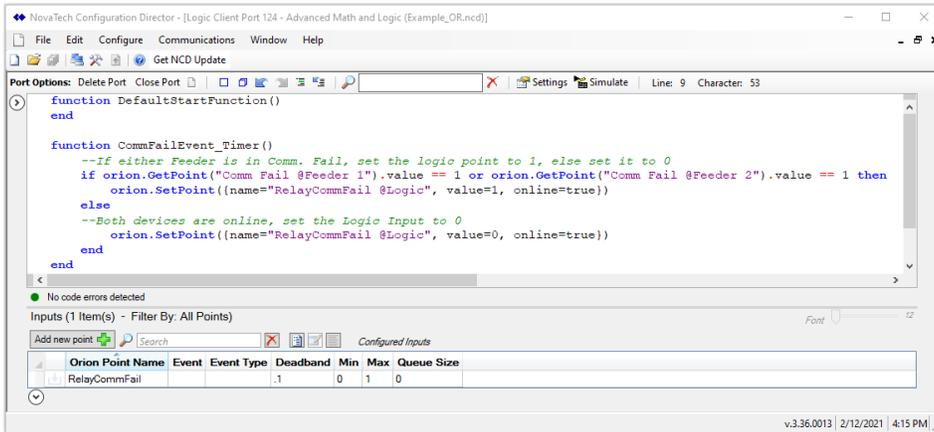

Figure 34: Setting up Comm Fail Logic
Step 4: Writing the code to OR the Comm Fail points (Figure 34)